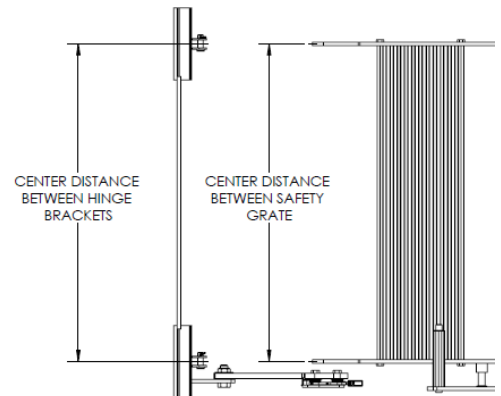

Figure 3
- b. On the pivot bracket end, line up the mounting holes in the grate plates with the holes in the hinge brackets. (See Fig. 3)